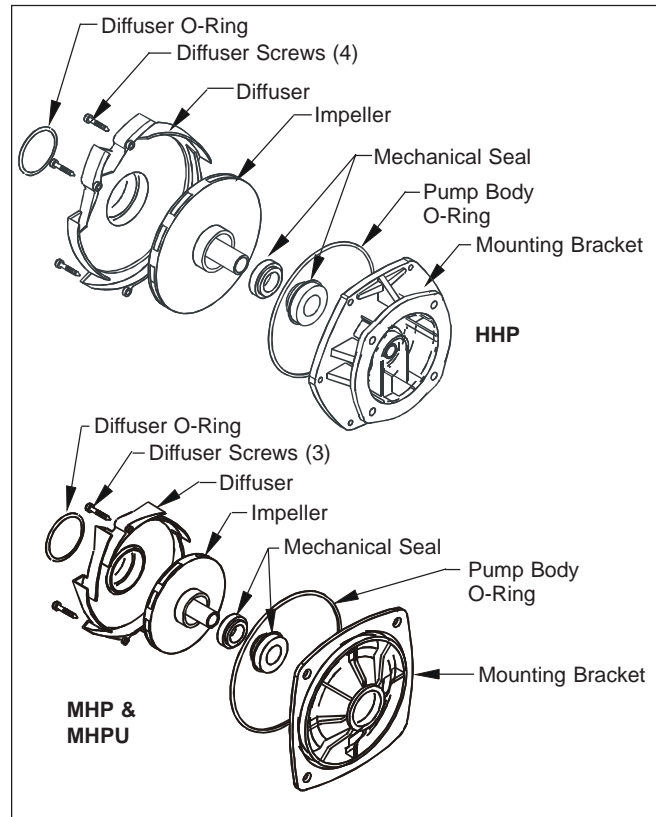

Figure 5. Mechanical Seal Replacement
6. There is an o-ring located between the diffuser and the pump body. Place the diffuser o-ring over the diffuser's suction side (See Fig. 5).